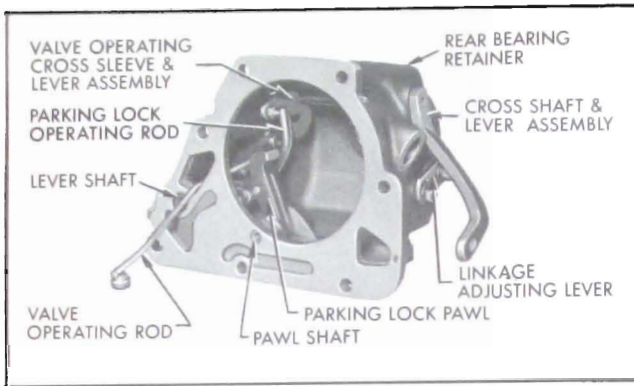
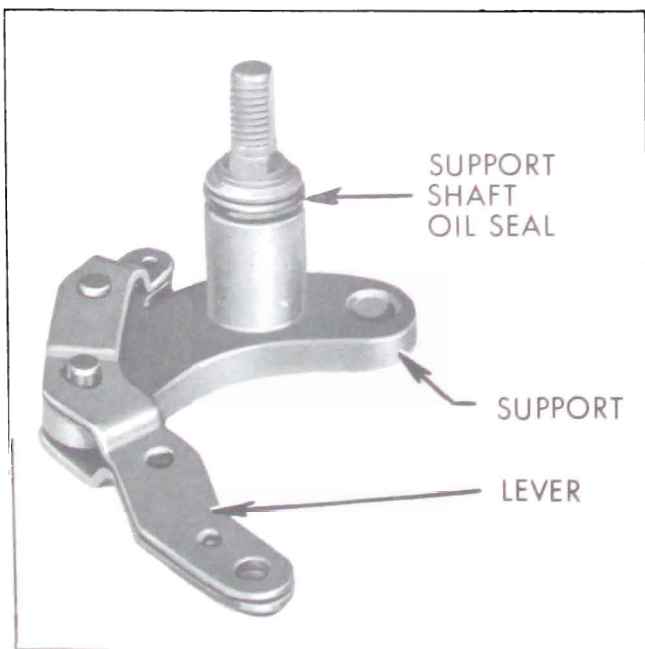

Figure 5-94—Parts in Rear Bearing Retainer
Figure 5-95—Detent Roller Lever and Support
2. Pull roller lever and support assembly into rear bearing retainer and remove. Examine "O" ring on support shaft. If damaged or worn, replace it. See Figure 5-95.
4. Be sure detent support shaft oil seal is in good condition properly installed and lubricated. See Figure 5-95. Then install detent roller lever and support. Assemble linkage adjusting lever on support shaft and install nut and lock washer. See Figure 5-94.